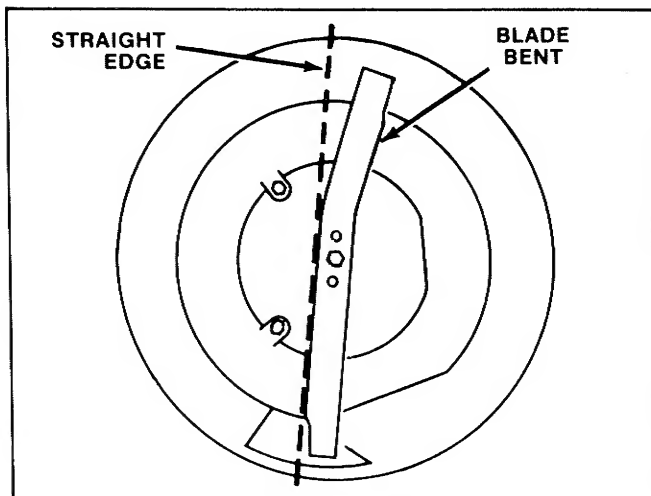

FIGURE 12
1. The blade should follow along a straight line (as shown in Figure 12).